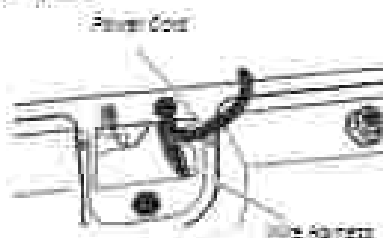
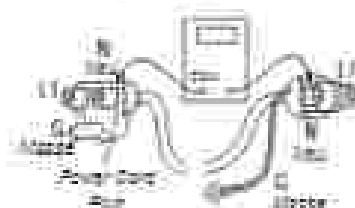

Figure 4 - Power cord-to-wire harness connection for gas dryer.
Figure 5 - Power cord terminals, gas dryer
3. Check that the power cord is firmly connected to the dryer's wire harness. See figure 4.
5. With an ohmmeter, check for continuity between the neutral (N) terminal of the plug and J7-4 (white wire) on the ACU. The left-hand side of figure 5 shows the position of the neutral terminal (N) on the power cord plug. Also see figure 1, page 13.
- If there is no continuity, disconnect the white wire of the main harness from the power cord at the location illustrated in figure 4. Test the continuity of the power cord neutral wire as illustrated in figure 5. If an open circuit is found, replace the power cord. Otherwise, go to step 6.
- If there is no continuity, check the continuity of the power cord in a similar way to that illustrated in figure 5, but for power cord's L1 wire.